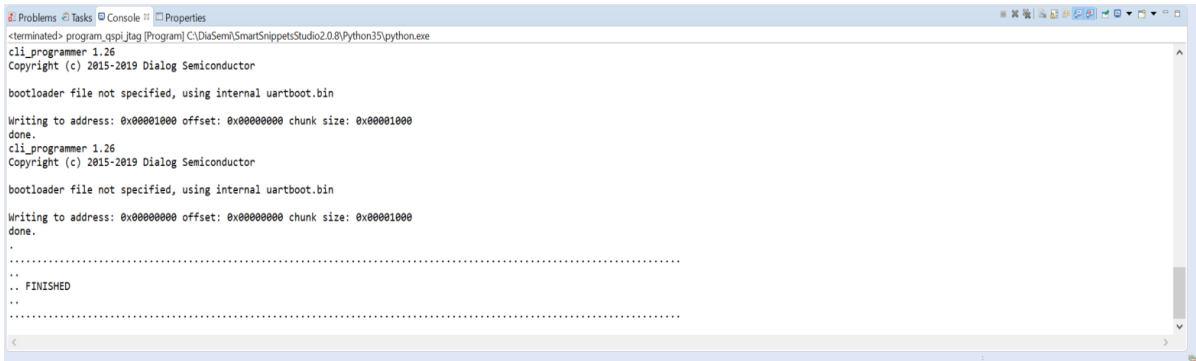

Figure 7: Programming the Flash Image
1. To write the generated image into the Flash memory, run the external script `program_qspi_jtag` (Figure 7).